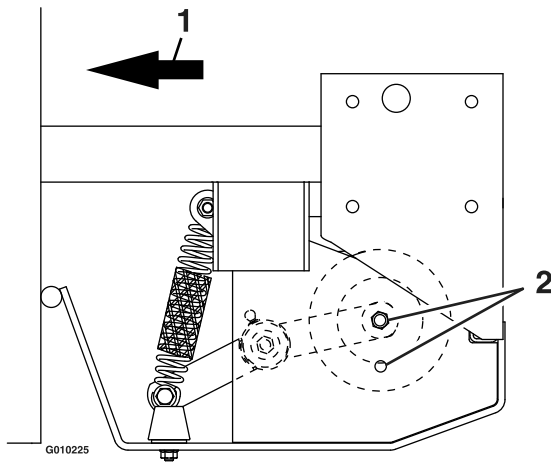
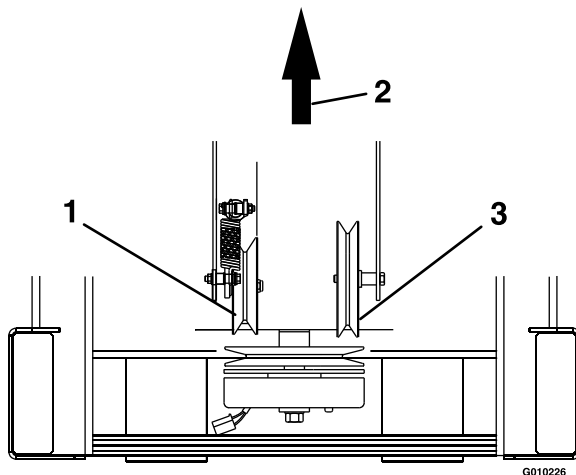

Figure 18
Figure 19
2. Check to make sure the center of the bolt head in the center of the spring loaded pulley, on left side engine deck support, is positioned between the centers of the two alignment holes in the left support plate (Figure 18 and Figure 19). It is necessary to adjust the belt tension when the center of the bolt head is at or below the center of the bottom alignment hole.